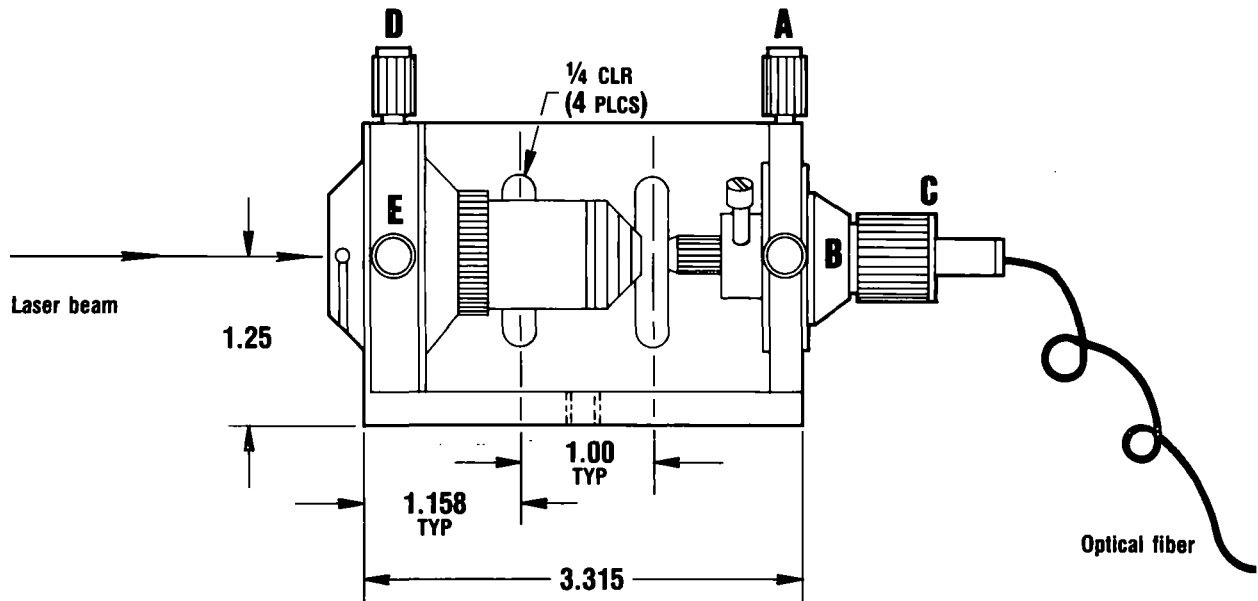

Fig. 2
4) The XY adjustment knobs (see Fig. 2) on the fiber holder, (A,B), can now be used as coarse adjustments to locate the fiber in the focused beam. Adjust the knobs so that some light is emitted from the output side of the fiber. (A pellicle beam splitter may be temporarily inserted between the laser and the entrance lens to help fine tune the focus Z-adjustment, (C). Insert the pellicle to direct the light reflected off the fiber end face onto a distant viewing screen. Adjust C until the reflected spot on the screen has its smallest diameter. Readjust knobs A and B).